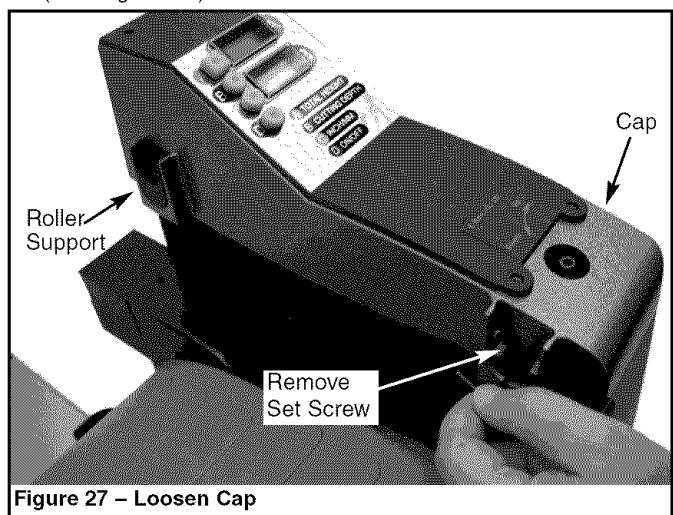

Figure 27 – Loosen Cap
- Remove return rollers. Pry roller supports up and out of cap. Remove set screw from each column beneath cap (see Figure 27).